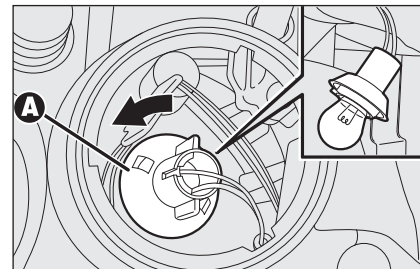

fig. 28
- turn the bulb holder **A-fig. 28** counterclockwise, remove the bulb and replace it;